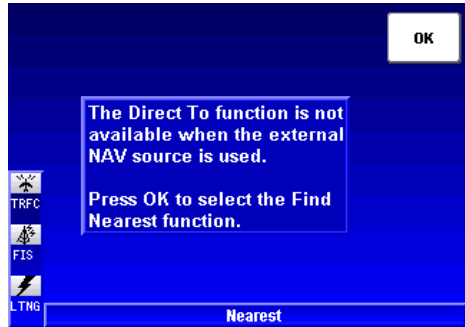

Figure 1-60
1. Press the Direct-To () Key to display the **DIRECT TO** window. If the KMD 250 is not presently navigating using the internal GPS, but is displaying information coming from an external GPS source, Figure 1-60 will be displayed. This is a prompt to indicate the Direct-To function is not available when using an external GPS source.
If the KMD 250 is presently navigating using the internal GPS, Figure 1-60 will not be displayed and Figure 1-61 will be shown immediately upon pressing the Direct-To Key.